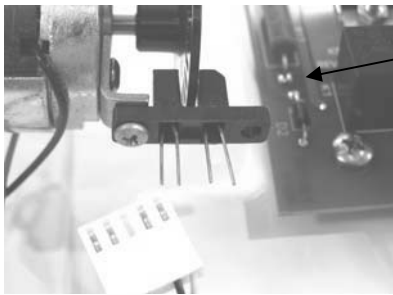

fig 8
7. Secure the optical sensor to the motor assembly with the provided screw. Verify that the chamfer is positioned towards the motor PCB and the encoder wheel is centered between the two posts of the optical sensor, as indicated in fig 8.